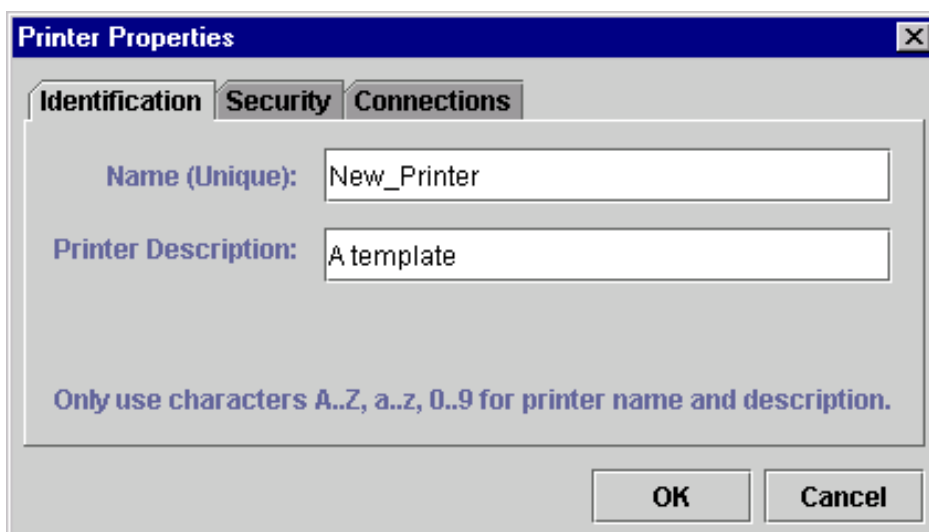

Figure 2. . Printer Properties (Identification)
3. Double-click on the "New_Printer (A template)" icon. The Printer Properties window appears, as shown in Figure 2.